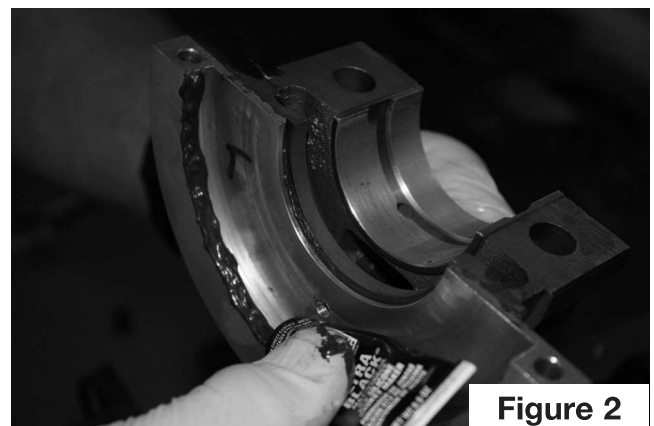

Figure 2
- 2) Apply a thin bead of Permatex Ultra Black sealer in the annular grooves in the seal housing half bolted to the block. (Figure 2) Next, lower the crankshaft and seal into place. Make sure the seal is still seating correctly on the flange. Pushing the seal forward hard against the step in the seal housing will keep the seal at 90 degrees to the axis of the crankshaft. Carefully eyeball the seal to be sure it is not misaligned.